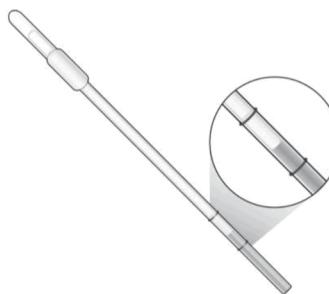

Figure 2. Representation of an Appropriate Sample Buffer (SB) Level Using the Disposable Transfer Tool (DTT).
4. Unseal the left side of the pouch (when facing label) containing the PIE, removing it from the pouch. Once unsealed, the PIE must be used within one (1) hour.
5. Remove the DTT from the right side of the pouch and use it to aspirate the sample buffer (SB) by squeezing the entire bulb. The liquid level in the DTT must be anywhere between the two (2) marks (Figure 2). If the liquid level is not between the two (2) marks, discharge the SB completely into the SBT and repeat this step until the liquid level is between the two (2) marks as indicated in **Figure 2**.